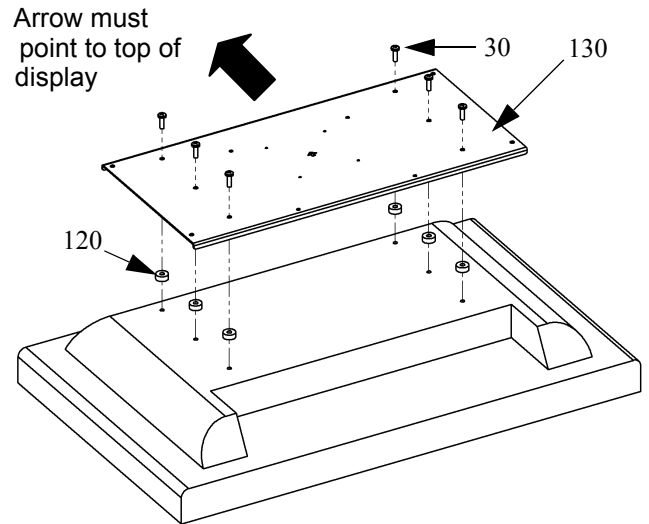

Figure 8: Attach 400mm x 200mm Interface Adapter
1. Select six M4 screws (80) and six spacers (190) from parts bag.
3. Install six M4 screws (80) into the six mounting holes on the interface bracket (140). (see figure 8)
4. Slide six retaining spacers (190) onto six M4 screws (80).
1. Select six M6 screws (30) and six spacers (120) from parts bag.
3. Install six M6 screws (30) into the six mounting holes on the interface bracket (130). (see figure 8)
4. Slide six retaining spacers (120) onto six M6 screws (90).